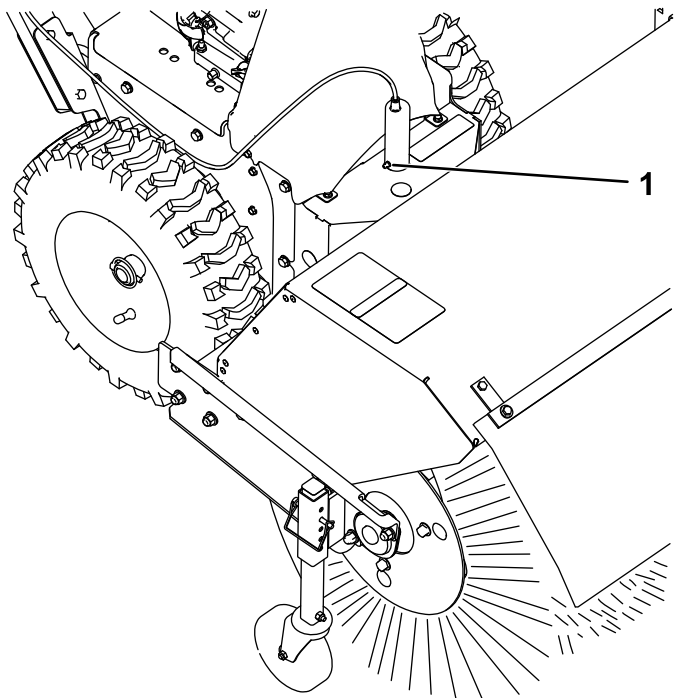

Figure 23
1. Lubricate the broom-angle-lock pin fitting with No. 2 lithium grease (Figure 23).